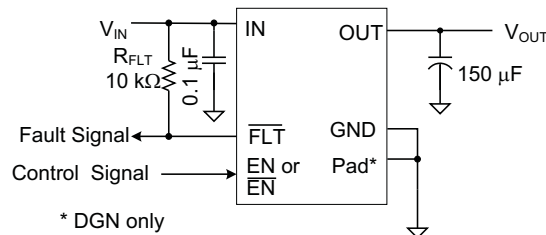

Figure 1. Typical Application
(1) Absolute maximum ratings apply over recommended junction temperature range.
(2) Voltages are with respect to GND unless otherwise noted.
(3) See the Input and Output Capacitance section.
(4) VOUT was surged on a pcb with input and output bypassing per Figure 1 (except input capacitor was 22 µF) with no device failures.